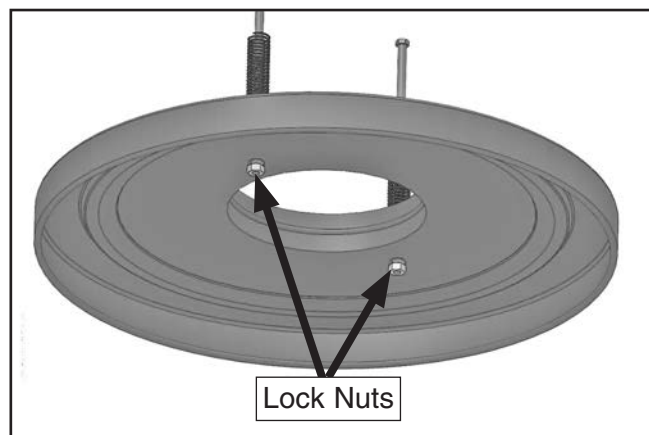

Figure 30. Cyclone funnel adapter hex bolts secured with lock nuts.
35. Remove collection drum from under lid, and secure hex bolts from **Step 30** with (2) $\frac{3}{8}$ "-16 lock nuts (see **Figure 30**).